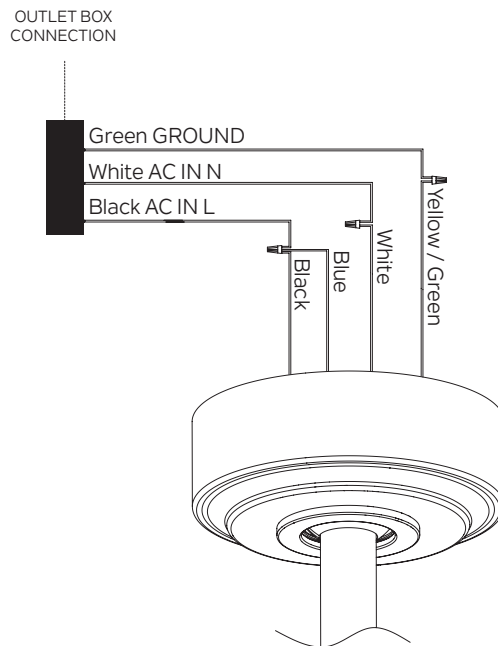

Fig. 13
Step 1. Connect the fan supply (black) wire and light supply (blue) wire to the household supply (black) wire as shown in Figure 13.
Step 3. Connect the ground (yellow/green) wires of the ceiling mounting bracket and the hanger ball to the ground conductor of the ceiling outlet box (**Fig. 13**).